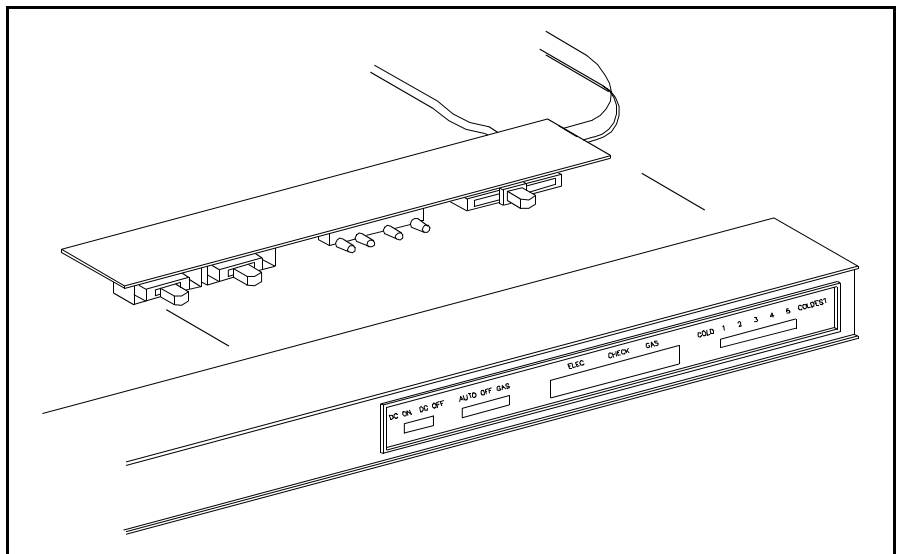

Figure 5.57 Eyebrow Board Removal
10. Remove the Eyebrow board from the Eyebrow as shown by Figure 5.57.